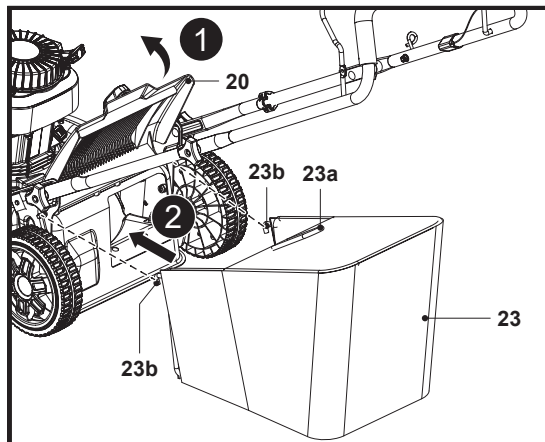

Fig. 5
3. Open the rear deflector guard (20) and hold it in position (Fig. 5, step 1).
4. Carry the grass catcher (23) by its carry handle (23a).
5. Align the two catcher hooks (23b) with the slots and hang the grass catcher (23) onto it (Fig. 5, step 2).
6. Carefully release the rear deflector guard (20) afterward.